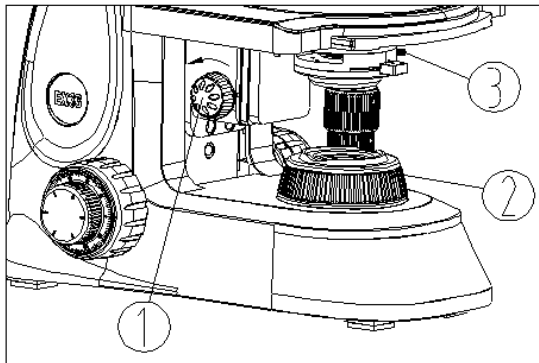

Fig. 11
Rotate the condenser adjusting knob ① to raise it to the highest position (see Fig. 11).
To adjust the condenser, turn the condenser adjusting knob ① (Fig. 11) to raise or lower the condenser. The condenser is typically used in its highest position.